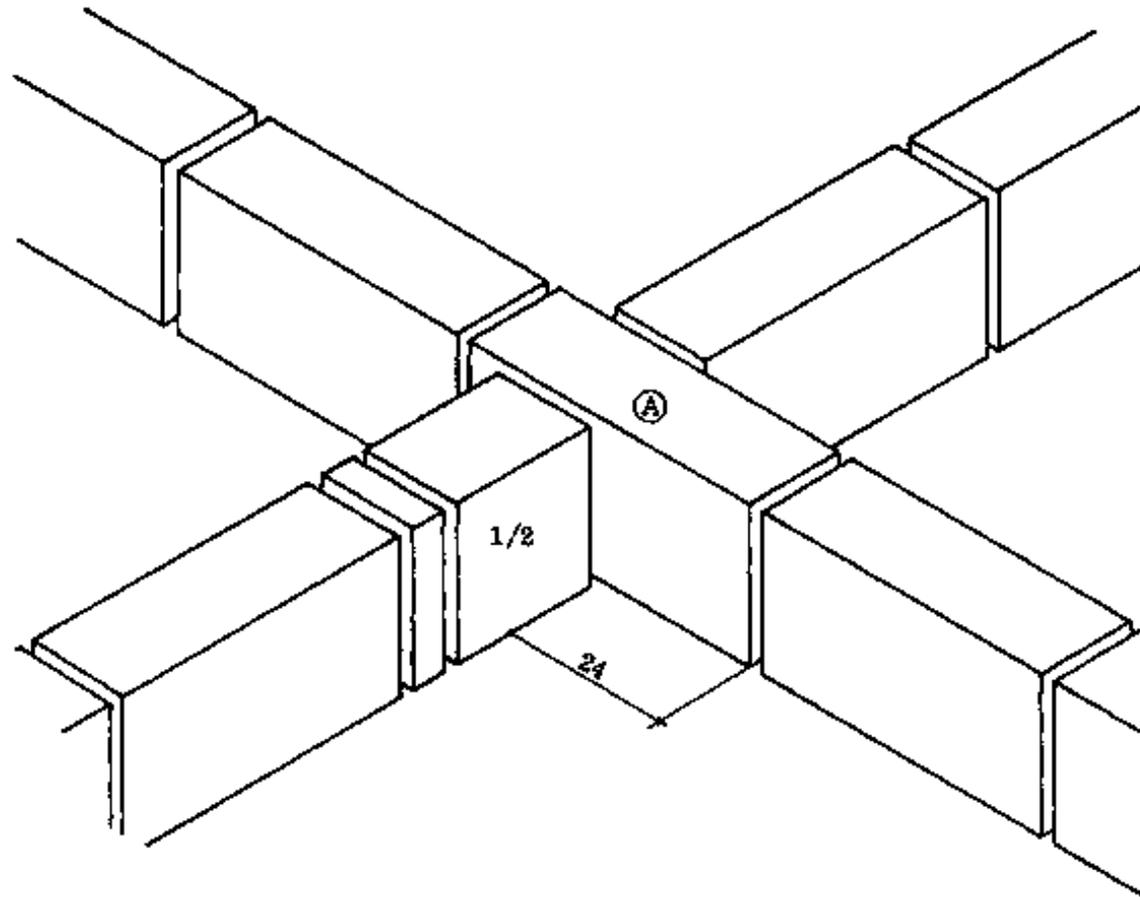

Fig. 1
**Fig. 1 shows the first course. The through wall consists of only full blocks, while the crossed wall starts on one side with a 1/2 block combined with a 5 cm block. This is continued in all four directions with full blocks. The through-going block (A) must extend past the crossed wall by 24 cm, which is the length of a 1/2 block plus the joint.**